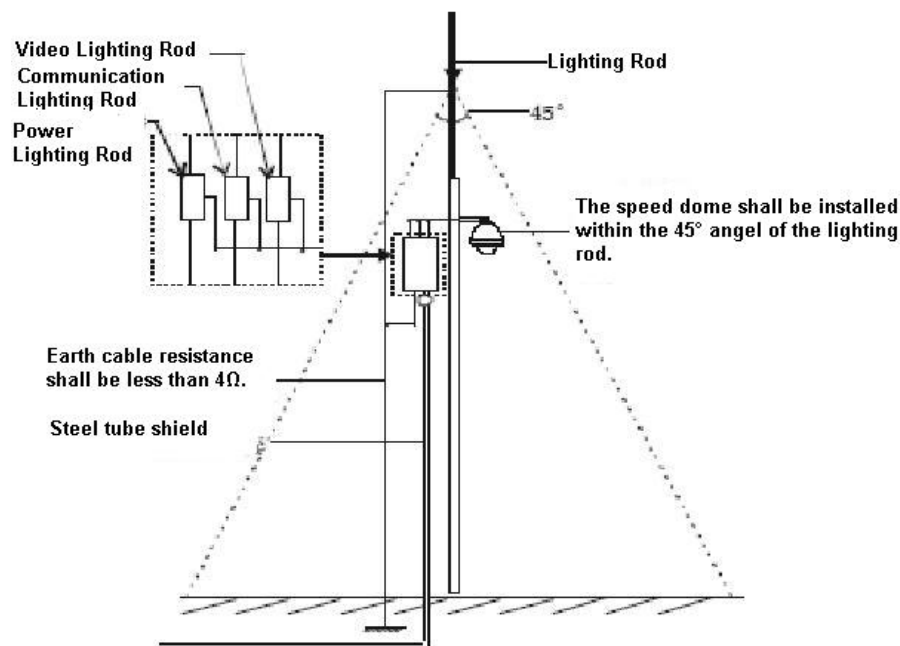

Figure 6-1
- System shall adopt equal-potential wiring. The earth device shall meet anti-jamming and at the same time conforms to your local electrical safety code. The earth device shall not short circuit to N (neutral) line of high voltage power grid or mixed with other wires. When connect the system to the earth alone, the earth resistance shall not be more than 4Ω and earth cable cross-sectional area shall below 25 mm². See Figure 6-1.